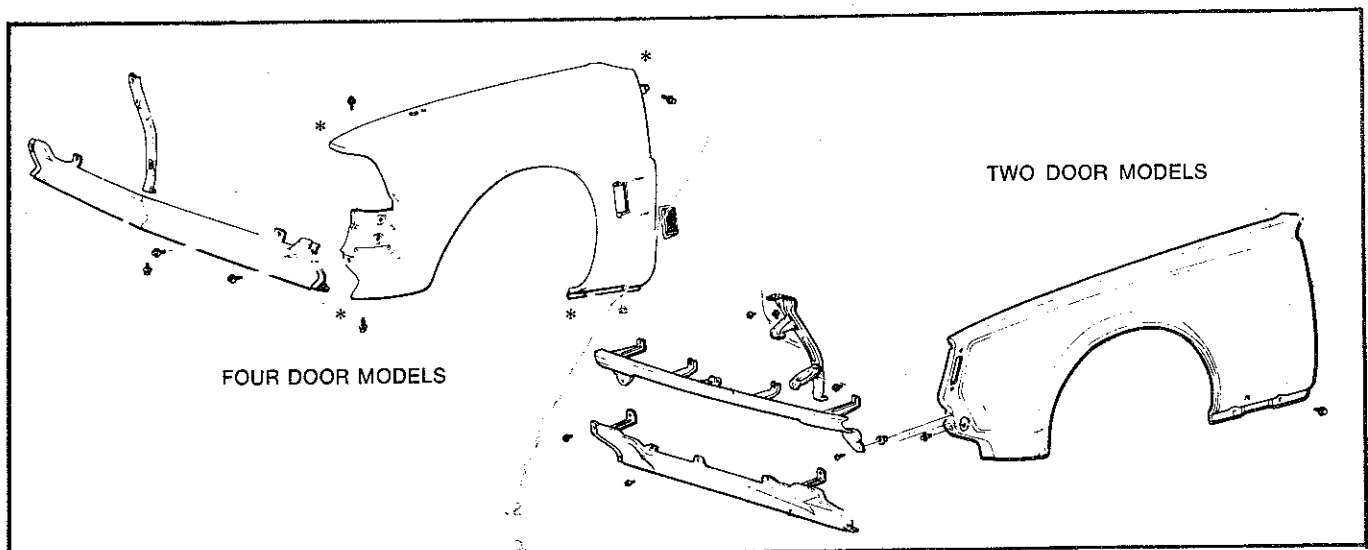

Fig. 7—Front fender assembly
(1) When installing the fender, fit the four bolts marked \* in Fig. 7 and adjust all margins, then install the remaining bolts.
(2) Excessive clearances should be adjusted using dry adhesive, except in the water drain hole area.